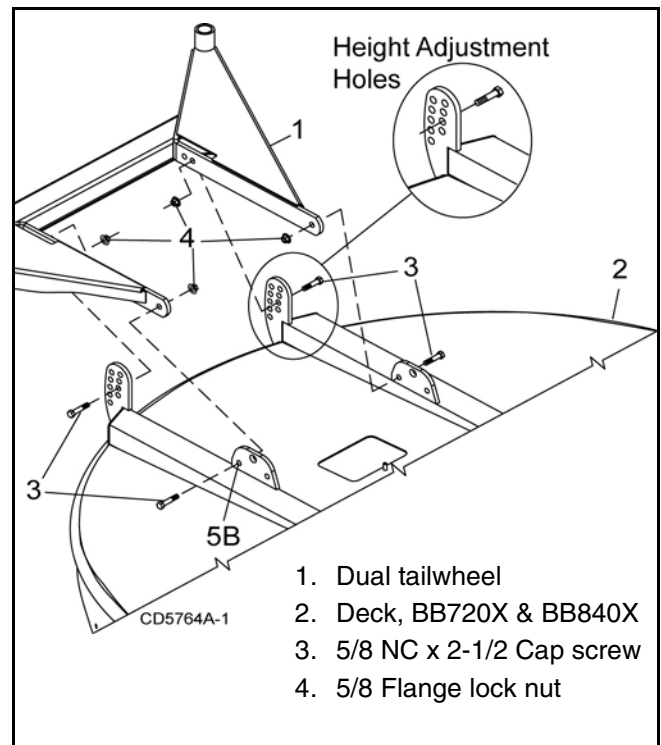

Figure 37. Dual Tailwheel Installation
1. Attach dual tailwheel (1) to main frame (2) using position 5B and desired height adjustment holes as shown in Figure 37.
2. Secure with cap screws (3) and hex nuts (4).